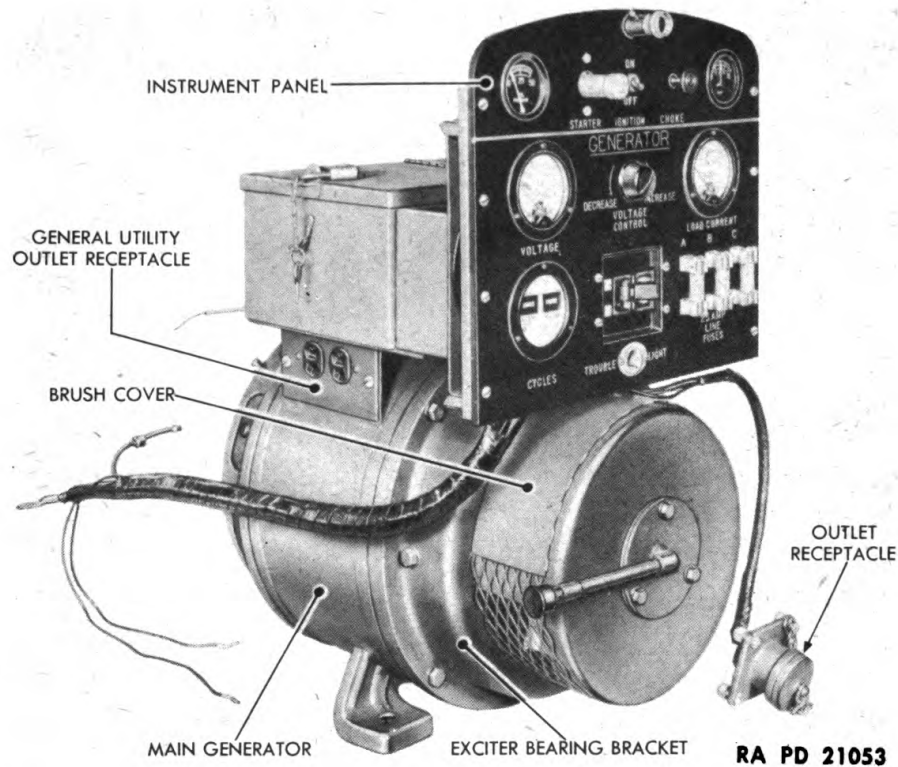

Figure 33 – Main Generator and Instrument Panel – Left Rear View
ary point bracket to secure proper alinement, and then adjust the gap (fig. 33) and tighten the lock nut.
64. MAIN GENERATOR AND EXCITER (fig. 33).